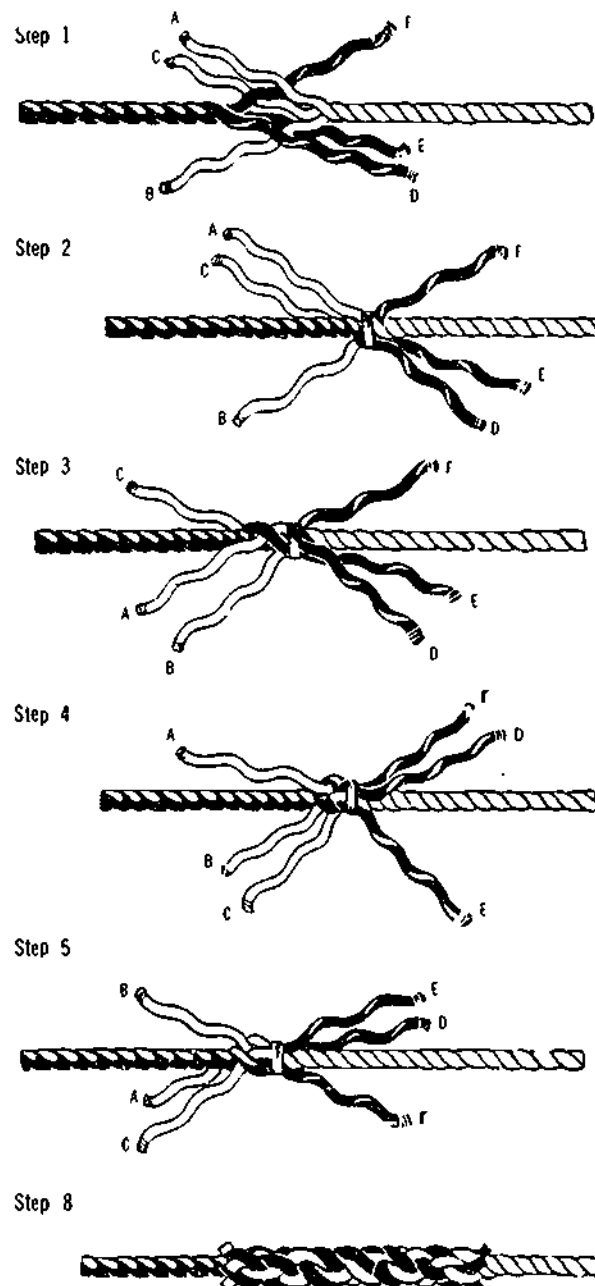

Figure 7-32. Making a Short Splice
- Step 1** Unlay the strands at end of each rope for six or eight turns. Whip the ends of the strands to prevent their untwisting, and bring together so that each strand of one rope alternates with a strand of the other (Figure 7-32, Step 1).
- Step 2** Bring the ends tightly together and apply a temporary seizing where they join (Figure 7-32, Step 2).
- Step 3.** Take any one strand and begin tucking, the sequence being over one and under one. Figure 7-32, Step 3, shows how Strand A is passed over the strand nearest to it, which is Strand D, and then under the next strand, Strand E.
- Step 4** Rotate the splice away from you one-third of a turn and make the second tuck: Strand B is passed over Strand E and then under Strand F (Figure 7-32, Step 4).
- Step 5** Before making the third tuck, rotate the splice again one-third of a turn away from you. Strand C is then passed over Strand F, and under the next one, Strand D. The splice now appears as in Figure 7-32, Step 5.
- Step 8** When tucking is finished, remove the centre seizing and cut off the ends of all strands, leaving at least  $\frac{3}{4}$ " on each end. To give a smooth appearance, roll the splice back and forth, either under your foot or between two boards. The completed Short Splice should look something like the illustration in Figure 7-32, Step 8.